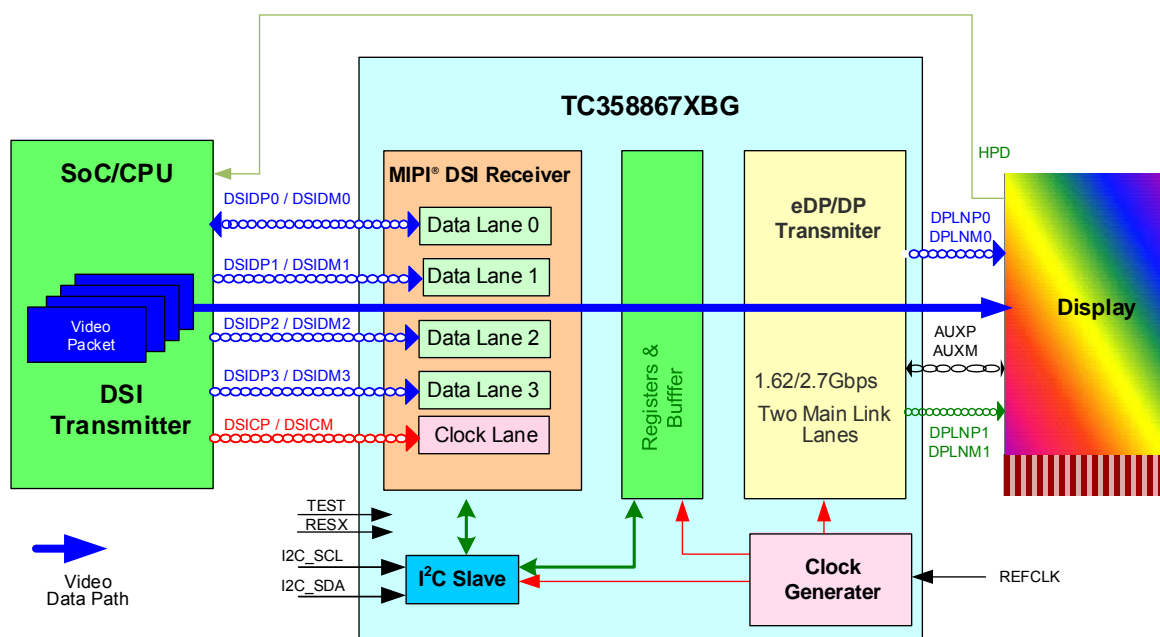

Figure 1.1 System Overview with TC358867XBG in MODE_S21 Configuration
- **Mode_S21:** A system configuration where TC358867XBG may typically be used is shown in Figure 1.1. In this configuration, the TC358867XBG can support displays with resolution up to WUXGA (1920×1200) at 24bit, 60 fps or WUXGA (1920×1200) at 18bit, 60 fps. Video stream source is from DSI Host.